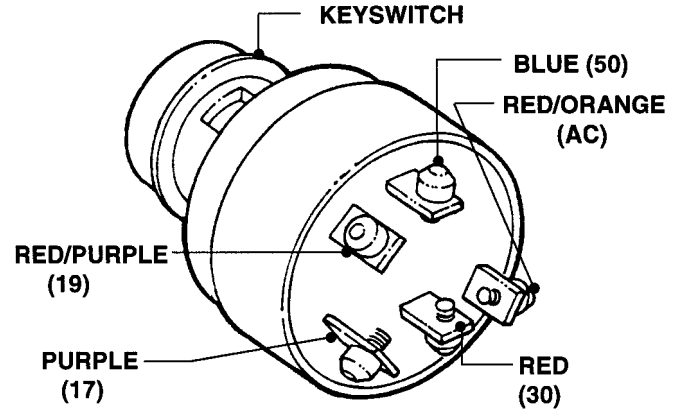

FIGURE 3.8
2. Disconnect wires from the Switch Terminals. See Figure 3.8.